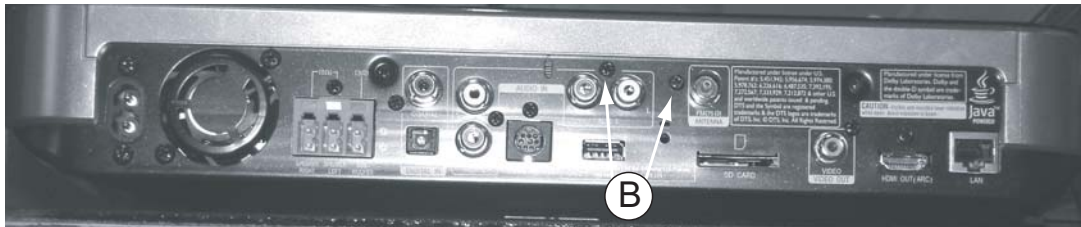

Figure 2
- 1) Loosen 2 screws "B" at the back panel to remove the Tune AUX in Board as shown in figure 2.